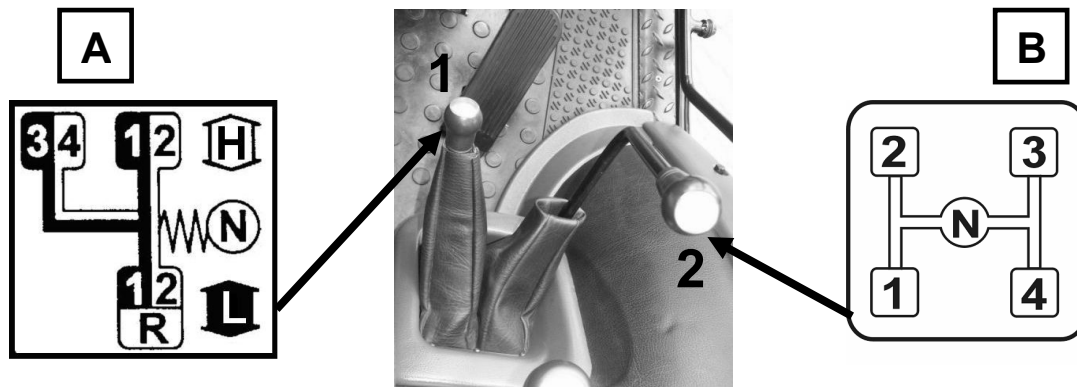

Fig. E-4b. Gear selection levers of PRONAR-1025A II tractors
- make sure that the lever 1 (fig. E-4b) for reduction gear lever and gear group selection and the lever 2 for gearbox control are in the N position. (pay attention to the gearbox control scheme at the console on the right side of the cab).